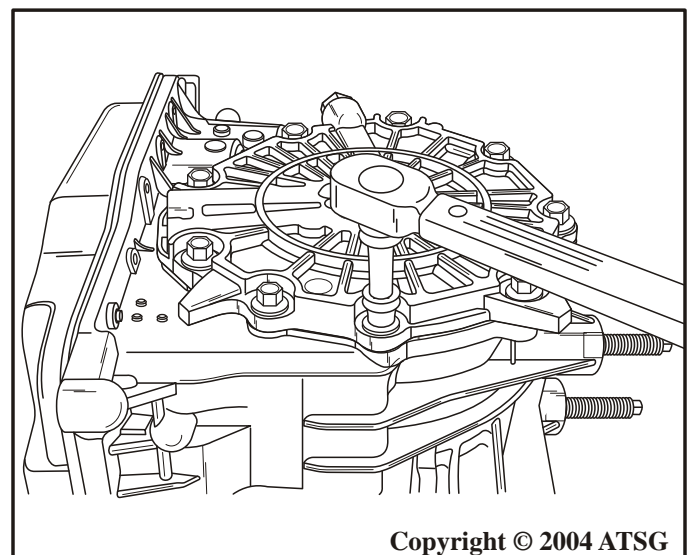

Figure 180
56. Torque the nine end cover retaining bolts to 22 N•m (16 ft.lb.), as shown in Figure 180.